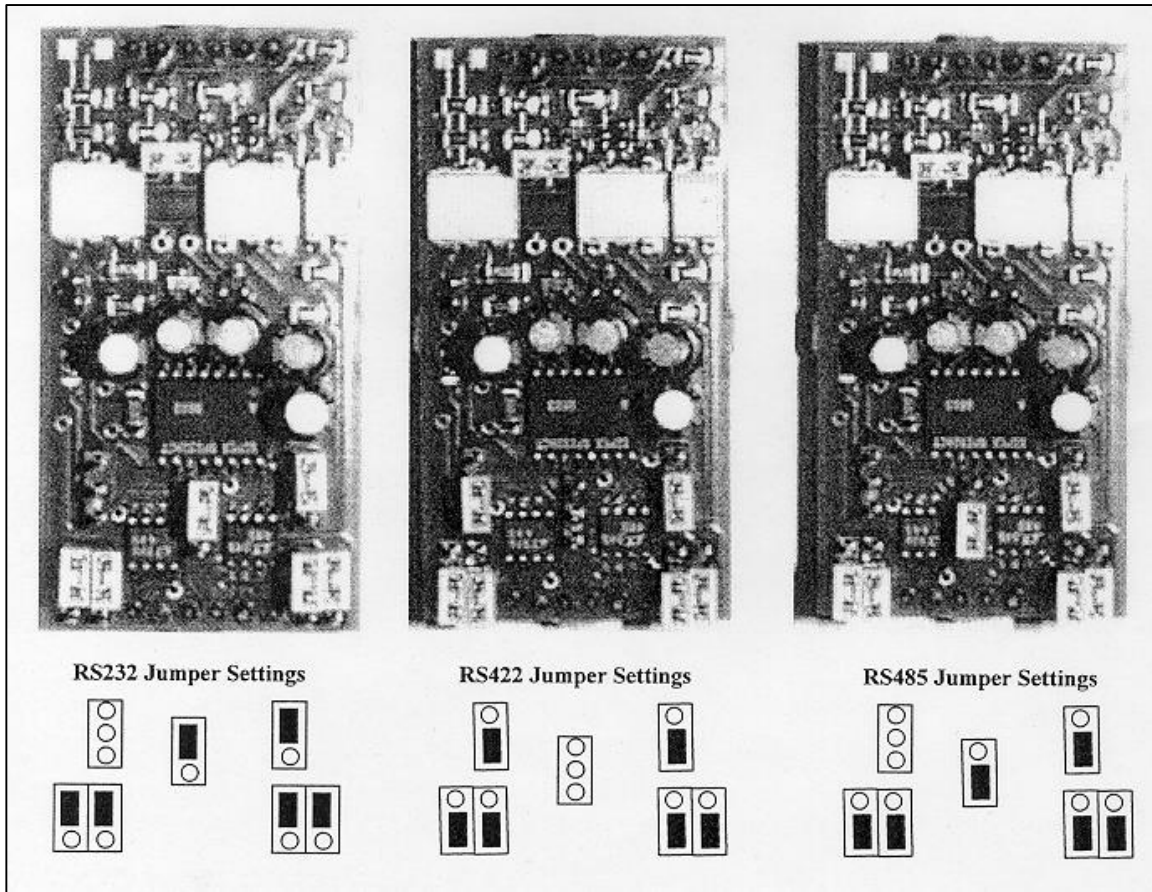

Figure 45. Communication Card Jumper Settings.
4. Set the jumpers on the communication card for the desired serial communication interface based on Figure 45.
3. Set the jumpers on the communication card for the desired serial communication interface based on Figure 45.